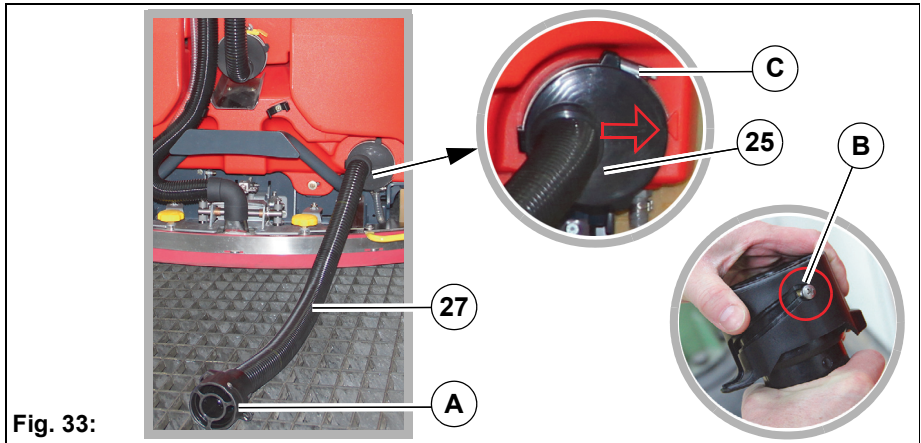

Fig. 33:
4. Remove the drain hose from the holder, open the drain valve **Fig. 33-A** and drain the waste water tank via the drain.
5. Ensure that the drain hose closure is fully closed after draining **Fig. 33-B!**
2. Undo the screw clamp **Fig. 33-C** with a screwdriver and remove the drain hose **Fig. 33-27**.